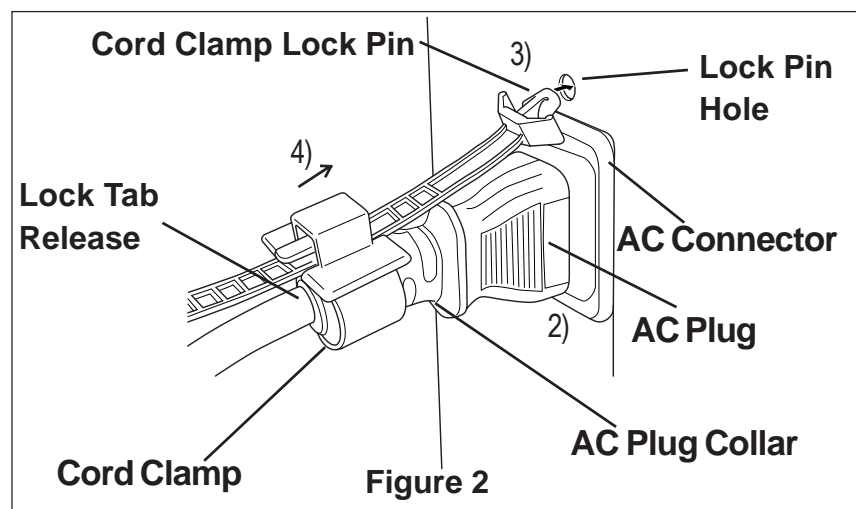

Figure 2
- 2) Connect the AC plug to the 15-inch Unit Power Supply's AC connector, as shown in Fig. 2.